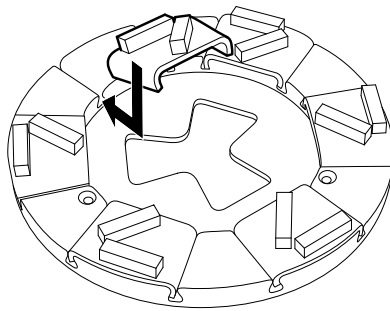

Figure 4-3 Fitting grinding tools
1. Slide the grinding tool diagonally, from above, down into the appropriate guide slot on the tool holder, see Figure 4-3 on page 19. Then push the tool fully into the guide slot.
2. Slide the grinding tool diagonally, from above, down into the appropriate guide slot on the tool holder, see Figure 4-3 on page 19. Then push the tool fully into the guide slot.